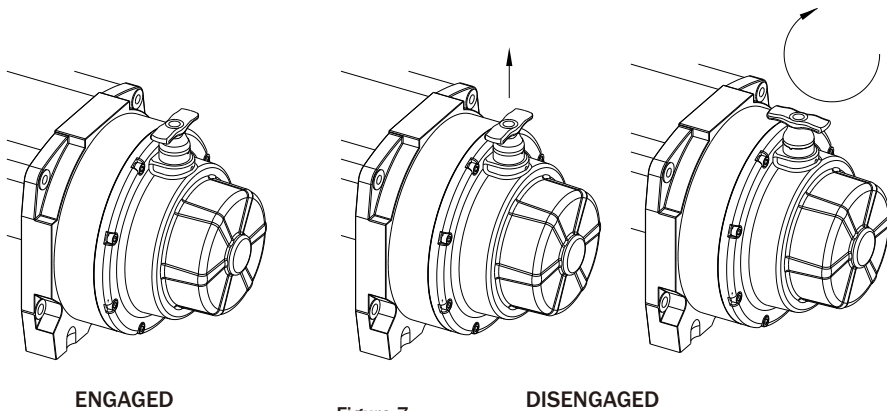

Figure 7
- a) Pull and rotate the clutch lever to the, "Disengaged" position as shown in Figure 7. If there is a load on the wire rope, the clutch lever may not turn easily. **DO NOT FORCE THE CLUTCH LEVER.** Release tension on the wire rope by jogging out some of the wire rope, then try releasing the clutch.
- c) Check that there are at least five(5) turns of wire rope or eight(8) turns of synthetic rope left on the drum.
- d) Re-engage the drum by rotating the clutch lever to the, "Engaged" position (see Figure 7)